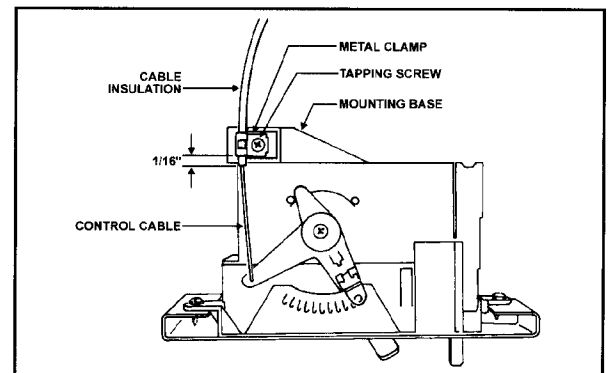

Figure 69: Cable Adjustment at Control Panel
**NOTE:** On the control panel, check that the control cable insulation extrudes no less than  $1/16$ " past the metal clamp on the control panel mounting base. If less than  $1/16$ ", go to next step. (Fig. 69)